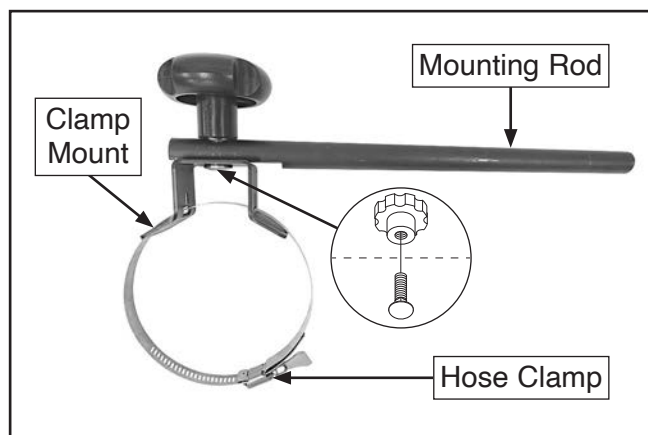

Figure 24. Mounting rod connected to clamp mount.
11. Fully loosen hose clamp and insert through clamp mount, then tighten hose clamp a few turns to reconnect (see **Figure 24**).
12. Insert (1) carriage bolt through clamp mount and mounting rod, then secure to knob (see **Figure 24**).